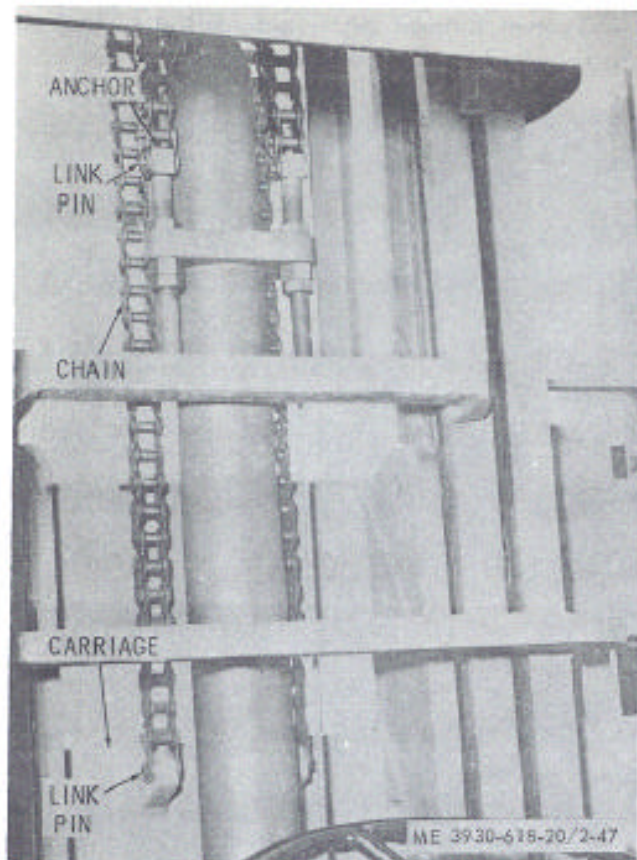

Figure 2-47. Lift chain, installed view.
a. Removal. The chains are attached at one end to anchors on the lift cylinder and at the other end to anchors on the carriage assembly; Refer to figure 2-47 and remove the chain as follows:-
- (1) Lower the mast to its lower limits.
- (2) Attach a hoist to the carriage to relieve the tension on the chains.
- (3) Remove the cotter pins and chain links from the anchors on the carriage assembly.
- (4) Remove the cotter pins and chain links from the anchors on the lift cylinder.
- (5) The chains are then free for removal.